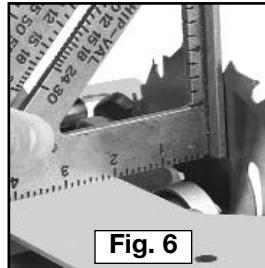

Fig. 6
2. Turn the saw upside down, retract the telescoping guard, and check to see that the blade is square (Fig. 6).